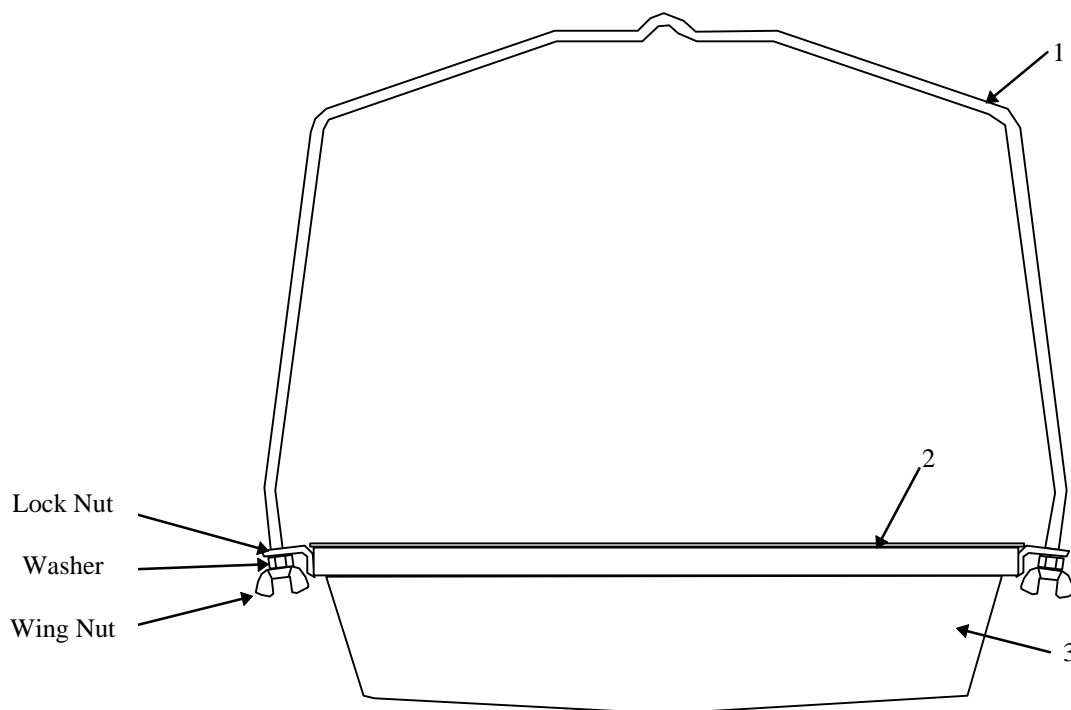

Figure 2-a
1. Assemble pan bail (1) and pan support ring (2) as shown in figure 2-a.